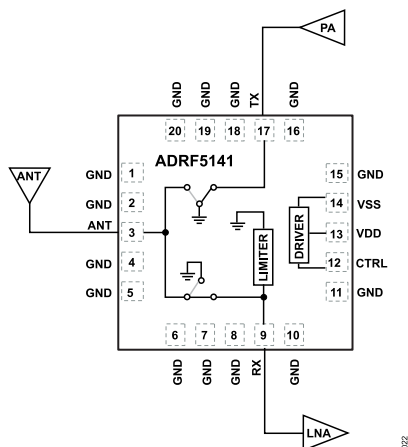

Figure 22. Typical Application Diagram
The power limiter at the RX arm engages and limits the input power from the ANT power. See the Table 1 section for the RX flat Leakage power level. A typical application of the ADRF5141 is to connect an antenna at the ANT pin, a power amplifier (PA) at the TX pin, and a low-noise amplifier (LNA) at the RX pin. The integrated power limiter at the RX arm provides protection to the LNA input connected to the RX pin (see Figure 22).